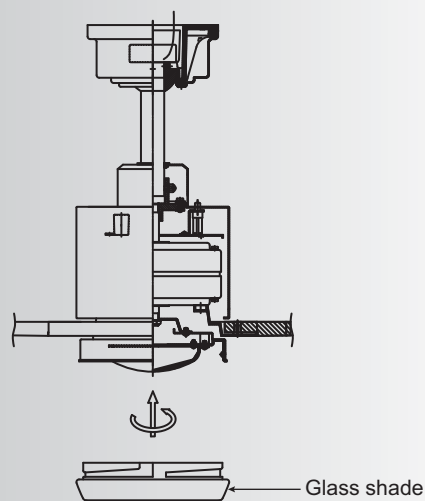

Fig. 19
Step 4. Raise the glass shade against the light kit and turn clockwise until snug, **DO NOT OVERTIGHTEN.** (Fig. 19)